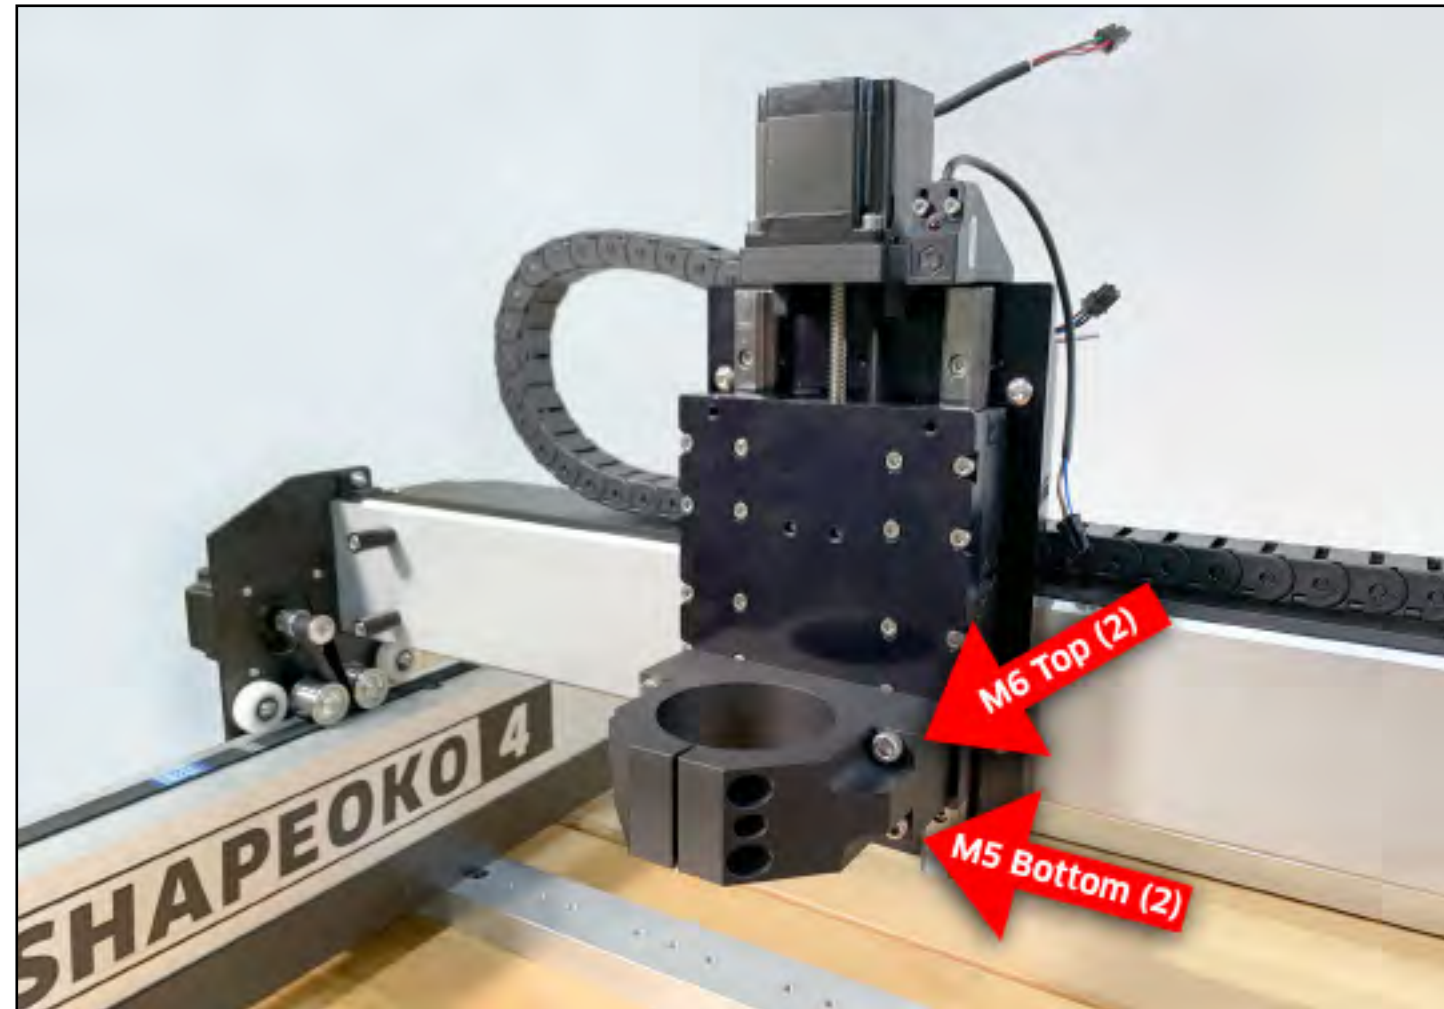

Figure 7-2
1. Position the router mount over the four screws holes at the bottom of the Z-Axis. See **Fig. 7-2**.
2. Use a 5mm hex key and two (2) M6×40mm SHCS to secure the top of the mount. Fully tighten.
3. Use a 4mm hex key and two (2) M5×40mm SHCS to secure the bottom. Fully tighten.